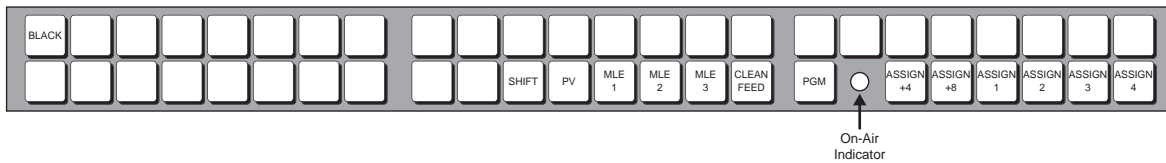

Figure 14.6 On-Air Indicator (Tally)
5. Press **Remote Panel Setup**. This places all the Remote Aux Panels connected to the switcher into assignment programming mode. The red **On-Air** indicator on the Remote Aux Panels flash (**Figure 14.6**).